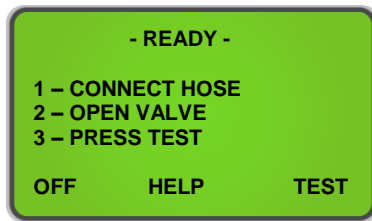
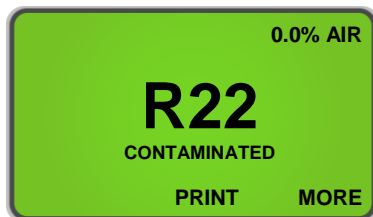
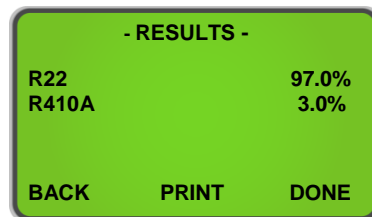

Figure 7
Figure 9
Figure 10
When the unit has completed a successful Air Calibration, the analyzer is then ready for gas testing. The unit will display the screen shown in **(Figure 7)**. Determine if you are Vapor Sampling or Liquid Sampling and make sure the proper hose assembly is connected to complete your required form of testing. Section **2.4 Vapor Sampling** and **2.5 Liquid Sampling** outline proper procedure for both forms of testing.
- 2) Open the low side valve of the cylinder and press 'TEST' **(Figure 7)**.
- 5) Press 'TEST' on the Analyzer (**Figure 7**).
Upon completion of the test, the *YELLOW JACKET 68940* will display a screen similar to that shown in (**Figure 9**). Pressing the 'MORE' button will display the screen shown in (**Figure 10**). Once you have completed your test, press 'DONE' to return back to the 'READY' screen (**Figure 7**) or refer to section **2.10 Print the Test Results & Channel Data** to print.